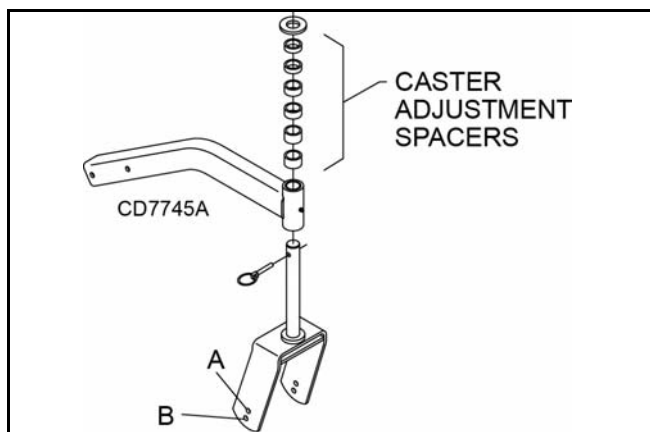

**Figure 4.** Cutting Height Adjustment
6. Adjust front of mower level with or slightly lower than the rear to obtain best mowing results. See Figure 4.
Remember, measurement at location A (Figure 4) should not be less than location B and should not be over 1/2" greater than location B.